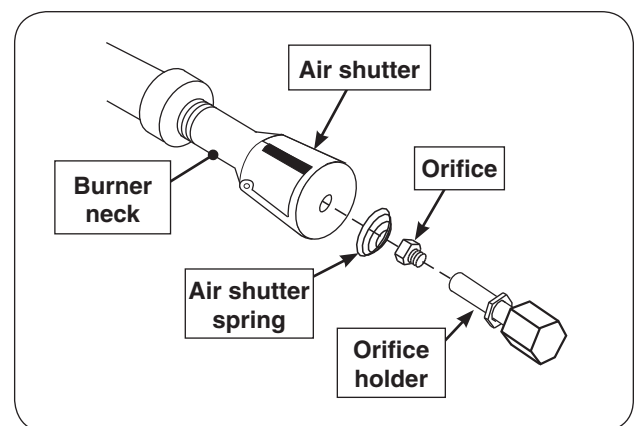

Fig. 35-3 Burner replacement diagram
4. To re-install, position the air shutter spring and air shutter over the orifice holder fitting, between the burner and the heat shield, in the order and position shown in Fig. 35-3. Do for both burner necks.